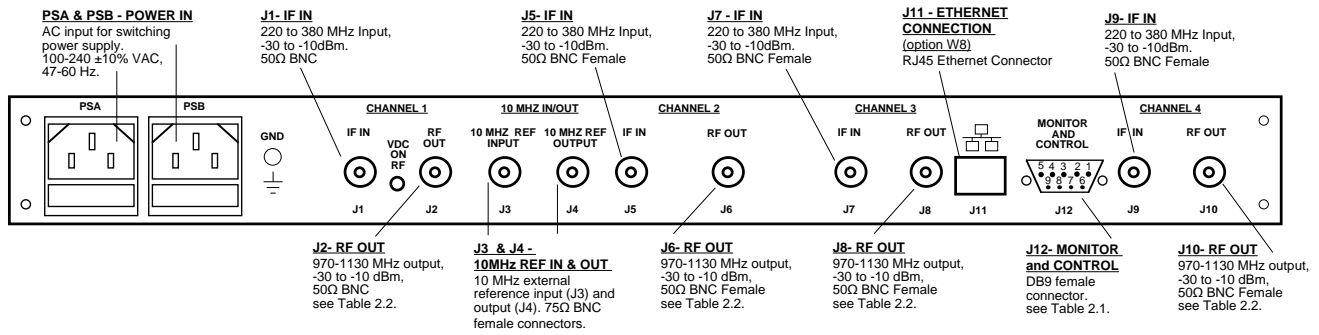

FIGURE 2.2 2483-40311 Rear Panel I/Os
Figure 2.2 shows the input and output connectors on the rear panel.
1. Connect a -30 dBm to -10 dBm signal to IF IN, for the designated channel (ie: J1, J5, J7, J9), (Figure 2.2).
2. Connect the RF OUT, for the designated channel (ie: J2, J6, J8, J10), to the external equipment, (Figure 2.2).